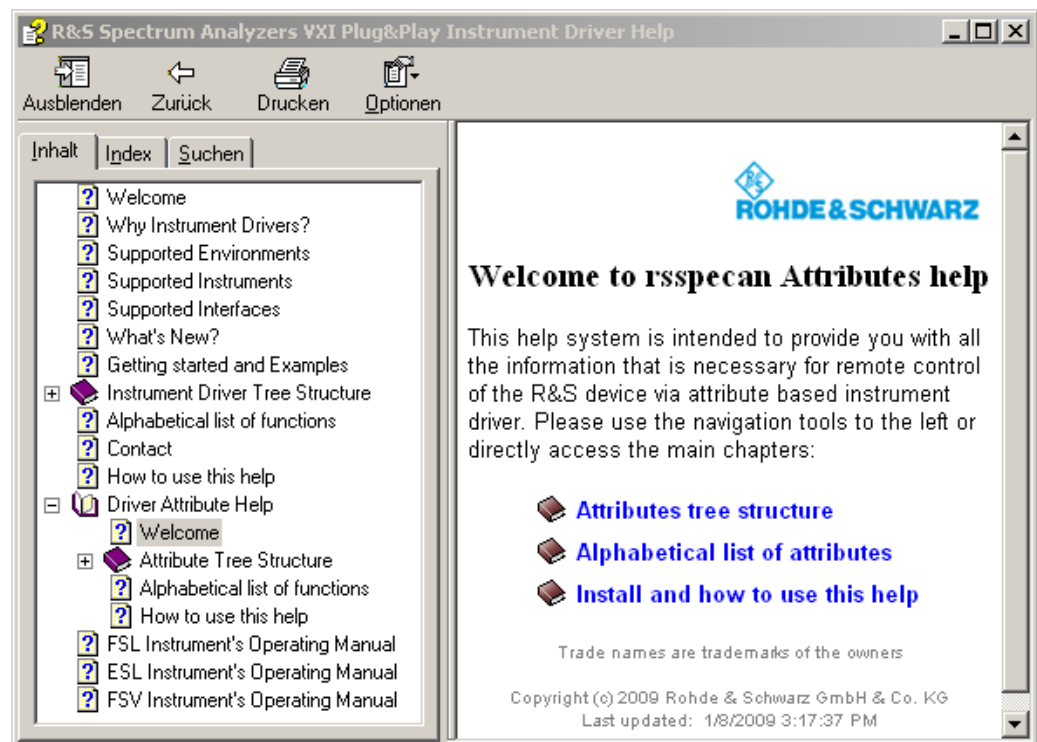

Figure 1: Mapping of attributes and driver calls within the Driver Attribute Help section.
- For attribute-based drivers (with *rsXYZ_attr.chm*): mapping of attributes and driver calls (see Fig. 1)